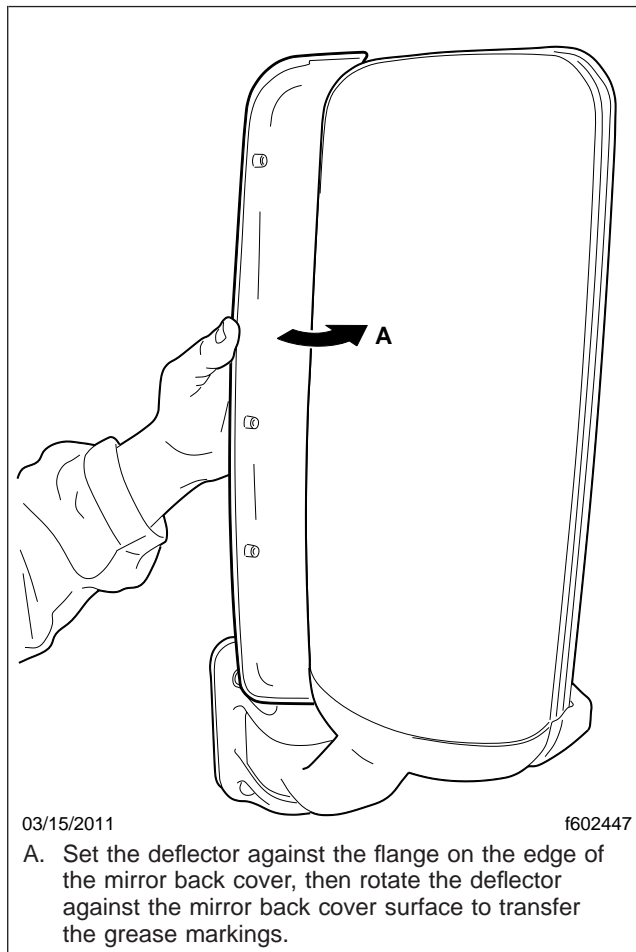

Fig. 3, Using the Deflector to Mark Drilling Locations to Mirror Back Cover
- 3.3 Place the edge of the deflector against the flange on the inboard edge of the mirror back cover. Rotate the deflector onto the surface of the back cover, then press it against the back cover to transfer the grease markings to the surface. See Fig. 3.